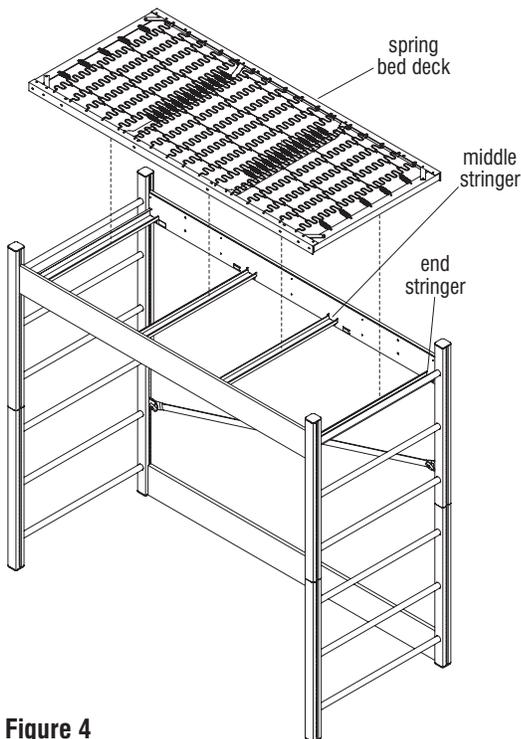

Figure 4
2. Carefully position one end the spring bed deck onto an installed end stringer, pushing the frame toward that end, then lower the other end down so it rests firmly on all end and middle stringers (Figure 4).